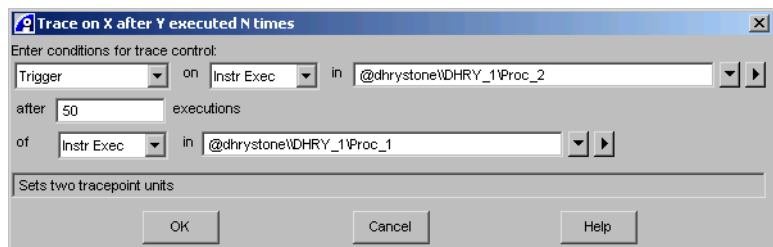

Figure 2-55 Completed conditional tracepoint dialog box
- f. Click on the drop-down arrow ▼ to the right of the text box to display a menu of items saved in your personal history file. Select **<Function List...>** from this menu to display the Function List dialog box. Highlight **DHRY_1\Proc_1 of @dhrystone** in the list of functions, then click **Select**. This selects the function Proc_1 as the function that must be executed 50 times before the trigger can occur. The completed dialog box appears as shown in Figure 2-55.